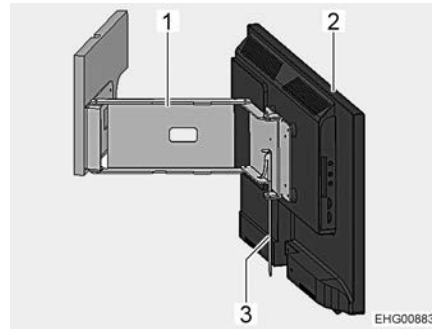

Fig. 95 Flat screen on jointed arm
- Flip the lever (Fig. 95,3). The jointed arm (Fig. 95,1) is unlocked.
- Swivel the flat screen (Fig. 95,2) into the desired position.